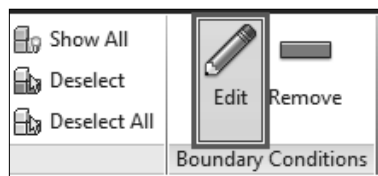
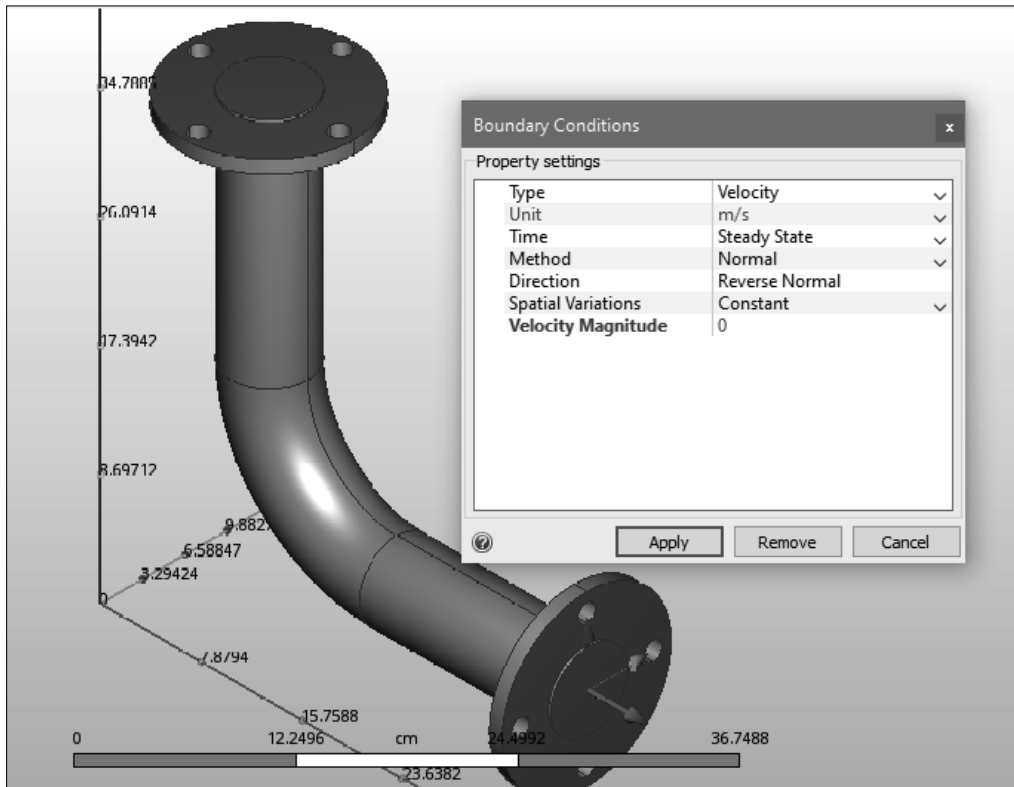

Figure-21. Edit button of Boundary conditions tool
Figure-22. Boundary Conditions dialog box
- After activating the **Boundary Conditions** tool from the **Setup Tasks** panel, click on the **Edit** button from **Boundary Conditions** panel of **Setup** tab; refer to Figure-21. The **Boundary Conditions** dialog box will be displayed; refer to Figure-22.